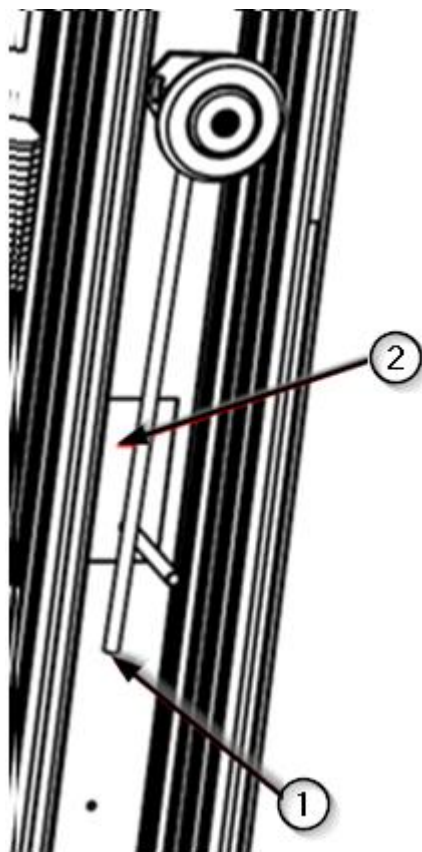

Fig. 5 Inlet connection for medical gases and vacuum
The electrical, voice and data circuits enter the equipment through a window ① whose dimension and location are detailed in the installation plan of the equipment. The electrical circuits terminate in a common terminal block ②, except for voice, data, whose connection is direct to the corresponding mechanism ③. See figure 5.